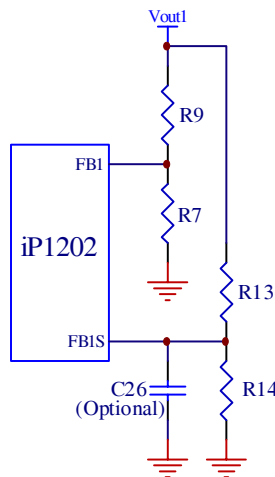

Fig. 17: Typical scheme for output voltage setting
Both outputs of the iP1202 will shut down if either one of the outputs experiences a voltage in the range of 115% of V_{OUT} . The overvoltage sense pins FB1s and FB2s are connected to the output through voltage dividers, R_{13} and R_{14} (Fig. 17), and the trip setpoints are programmed according to equation (1). Separate overvoltage sense pins $FB1_s$ and $FB2_s$ are provided to protect the power supply output if for some reason the main feedback loop is lost (for instance, loss of feedback resistors). An optional 100pF capacitor (C26) is used for delay and filtering purposes. If this redundancy is not required and if Type II control loop compensation scheme is utilized, FB1s and FB2s pins can be connected to FB1 and FB2 pins respectively.
When selecting output capacitors, it is important to consider the overshoot performance of the power supply. If the amount of capacitance is not adequate, then, when unloading the output, the magnitude of the overshoot due to stored inductor energy, and depending on the speed of the response of the control loop, can exceed the overvoltage trip threshold of the iP1202 and can cause undesirable shutdown of the output. The magnitude of the overshoot should be kept below 1.125 V_{OUT} . To prevent the overshoot from tripping the output a delay can be added by installing capacitor C26 as shown in Fig.17.